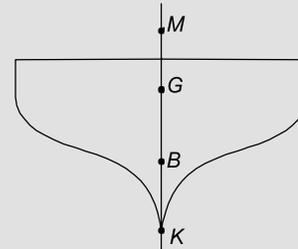

Figure 22.15
KB = vertical distance of the centre of buoyancy (B) above the keel (K) = 1.2 m (see Figure 22.15),